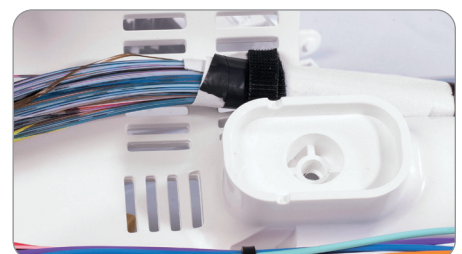

Figure 21
6. Secure inbound fibers or tubes with Velcro or tie wraps near yoke of basket and outbound fibers should be secured closer to the outside of the basket. (Figure 21)